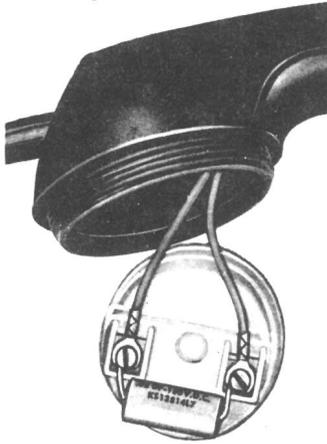

FIGURE 15. KS-13814, List 7 Capacitor, Handset Transmitter Cup
7.06 The KS-13814, List 7 capacitor may be placed inside the G type handset to bypass the transmitter unit as shown in Figure 15. Place the capacitor against the transmitter cup, keeping the capacitor leads as short as possible.